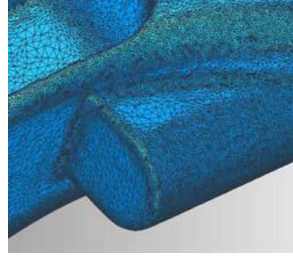

Figure 102
4. Click the **Apply** button, after a few moments the mesh will redraw and appear similar to **Figure 102**.